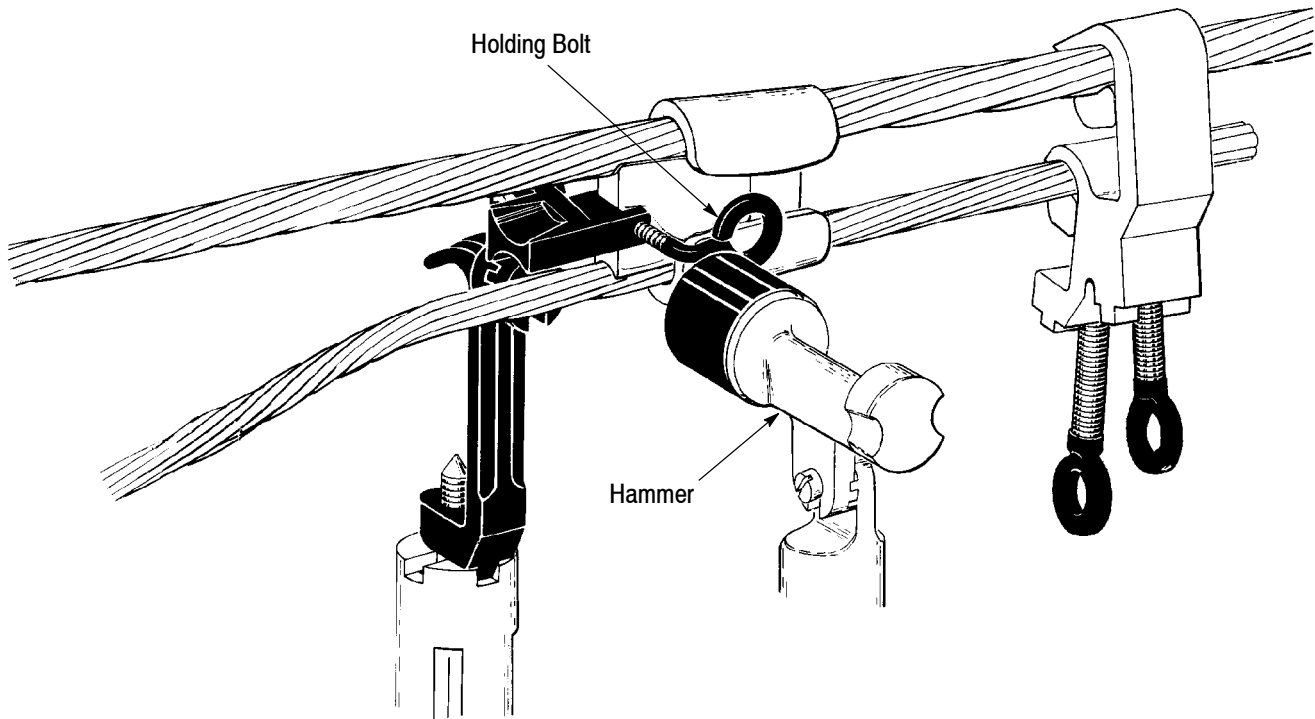

Figure 15
6. Use the rubber end of hammer to loosen wedge holder. Then remove shotgun assembly, leaving wedge in position. See Figure 15.
6. Use rubber end of hammer to loosen and remove wedge holder, leaving wedge in position. See Figure 15.
6. Use rubber end of hammer to loosen wedge holder and remove universal hot stick, leaving the wedge in position, as shown for the tap in Figure 15.